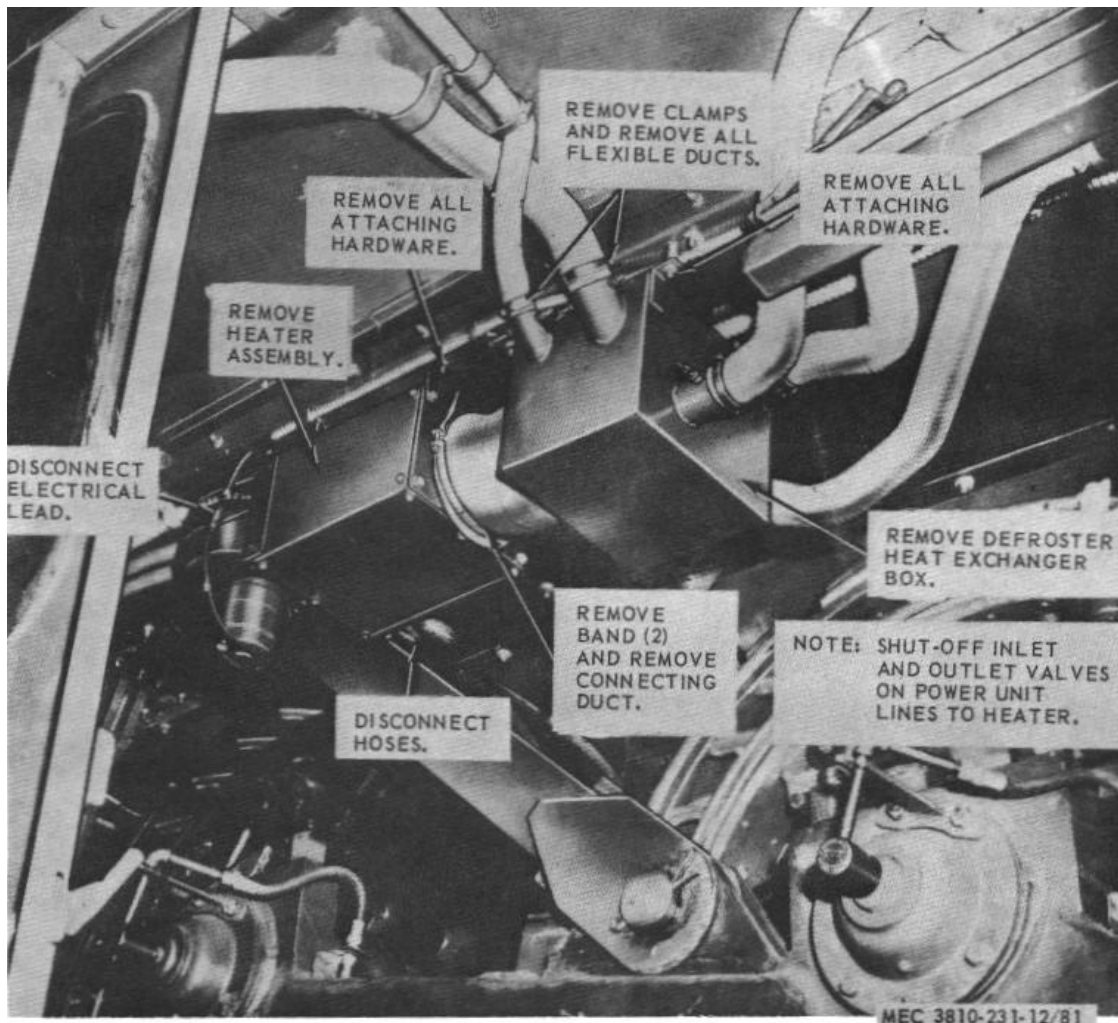

Figure 81. Heater and defroster, removal and installation.
a. *Removal.* Remove the cab heater and defrosters as instructed on figure 81.
- (1) Clean the heater, defrosters and mounting hardware with an approved cleaning solvent and dry thoroughly.
- (2) Inspect for cracks, breaks and other damage.
- (3) Inspect for proper operation. Replace a defective heater.
- (4) Replace a repair defroster ducts and mounting hardware as necessary.
- c. *Installation.* Install the cab heater and defroster as illustrated on figure 81.